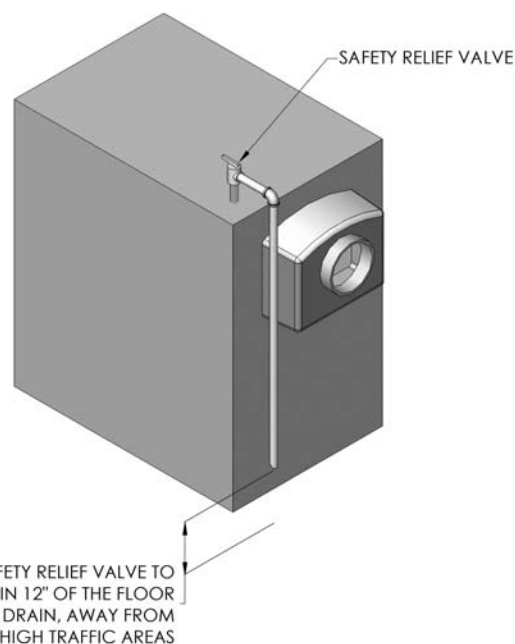

Figure 3.14: Safety Relief Valve Installation
- a) Install a Safety Relief Valve on the 3" NPT tapping at the top of the rear section for both steam and water boilers as shown in Figure 3.14.